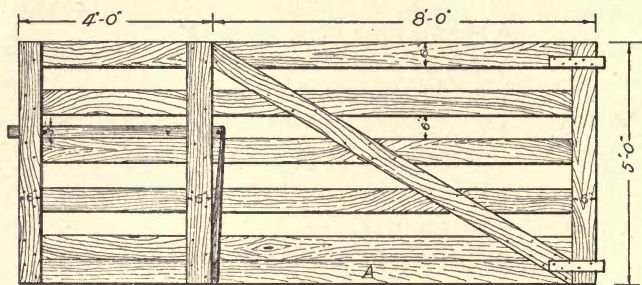

FIG. 97.— FARM GATE.
2. **Nailing gate together.** — Lay five of the 12' boards 6'' apart on the floor. Lay the sixth board against the edge of the fifth. (See *A*, Fig. 97.) Lay one upright across each end; and drive one nail through the uprights into the end of each board properly spaced, with the end of the boards flush with the edge of the upright. An easy and satisfactory method